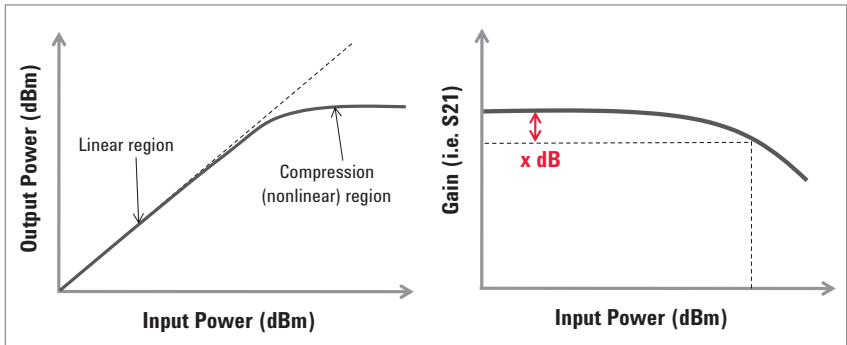

Figure 13. Gain compression measurement.
Using the power sweep with the VNA, the gain of the amplifier at the 1-dB compression point can simply be monitored as a function of input power level. This is accomplished by observing the reduction in gain at a continuous wave (CW) frequency as input power is increased as indicated in Figure 13.